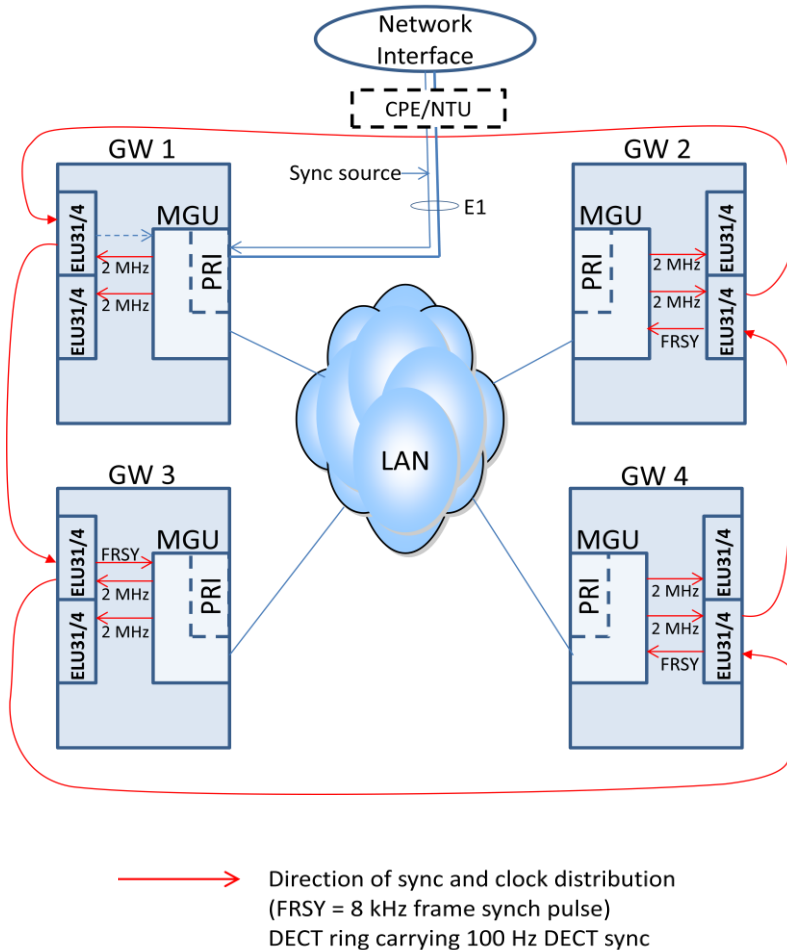

Figure 1
- In figure 1 the gateways in GW1 can receive the reference timing from the MGU clock or the PRI trunk in GW1. However, if you have a PRI/BRI clock source with good quality it shall be used as reference timing source in first hand. The ELU31/4 board in GW 1 is configured to distribute both System sync and DECT sync to next GW (GW 2). The ELU31/4 DECT ring board in GW 2 is configured to connect System sync and DECT sync to GW 2 and distribute System sync and DECT sync to next GW (GW 3) etc. The other GWs (2 – 4) are synchronized to MGU 1 via the RS.422 DECT synchronization cable and the ELU31/4 boards.